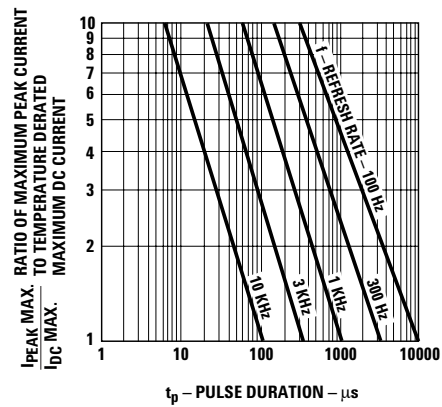

Figure 6. Maximum tolerable peak current vs. peak duration (I_{PEAK} MAX. determined from temperature derated I_{DC} MAX.).
2. Refer to Figure 6 to establish pulsed operating conditions.